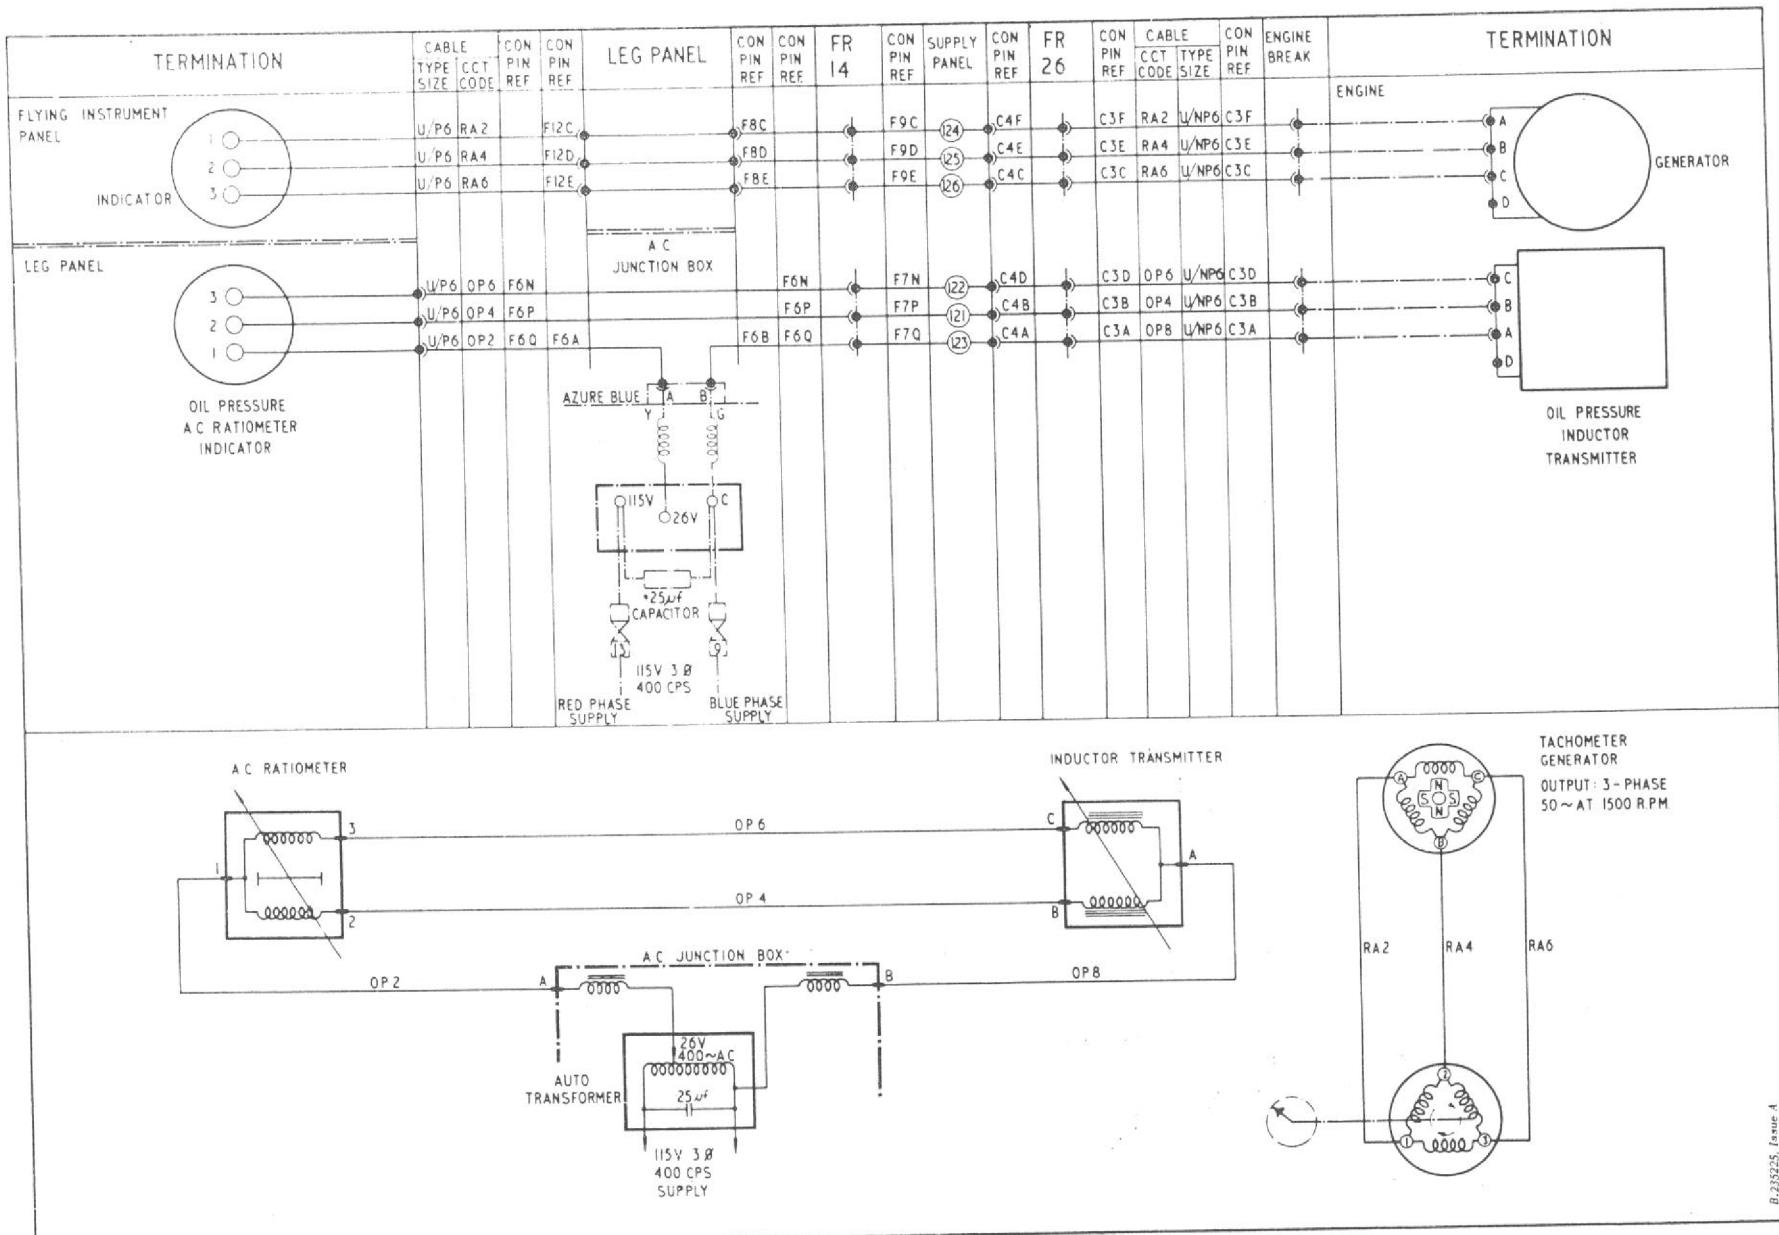

Fig.1 Oil pressure indicator and tachometer (routing and theoretical)
cuit is given in fig.1 of this group. For the principle of operation and a detailed description of the instrument, reference should be made to the Air Publication quoted in para.2 of this group.
4. This is an electrically-operated indicator situated on the flying instrument panel and supplied with current from an engine-driven tachometer generator located on the engine wheelcase. The indicator and generator form a closed circuit as shown on the routing and theoretical diagram given in fig.1 of this group. A detailed description of the tachometer equipment, together with the principle of oper-